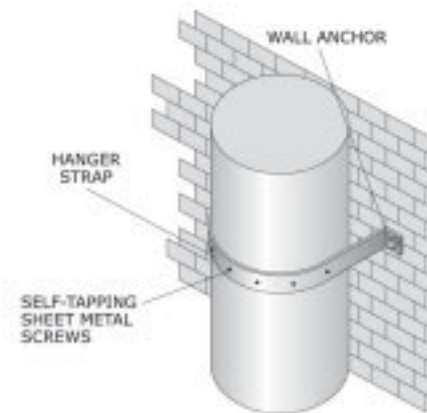

Figure 53: Strap connected directly to wall.
- !** Straps in Figure 53 (above) do not provide vertical bracing.